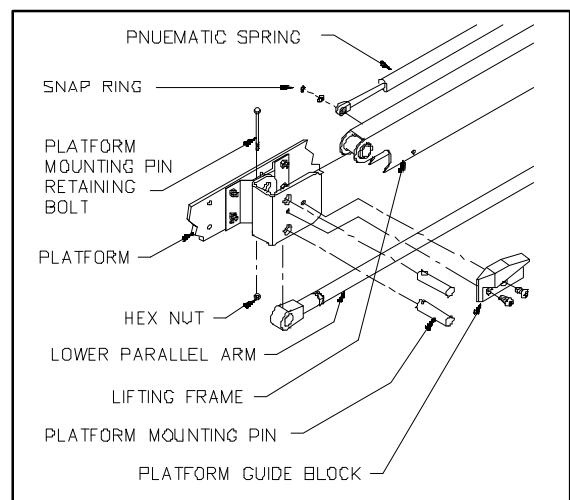

FIGURE 4-4: DISCONNECT BRIDGEPLATE
- b. Refer to **Figure 4-4**. Remove the snap-ring fastening the bridge plate pneumatic spring to the lifting frame. Fold the bridgeplate over onto the lift platform, rotate the bridgeplate pneumatic springs parallel to the platform, and secure the bridge plate and pneumatic springs to the platform with a small rope or strap.